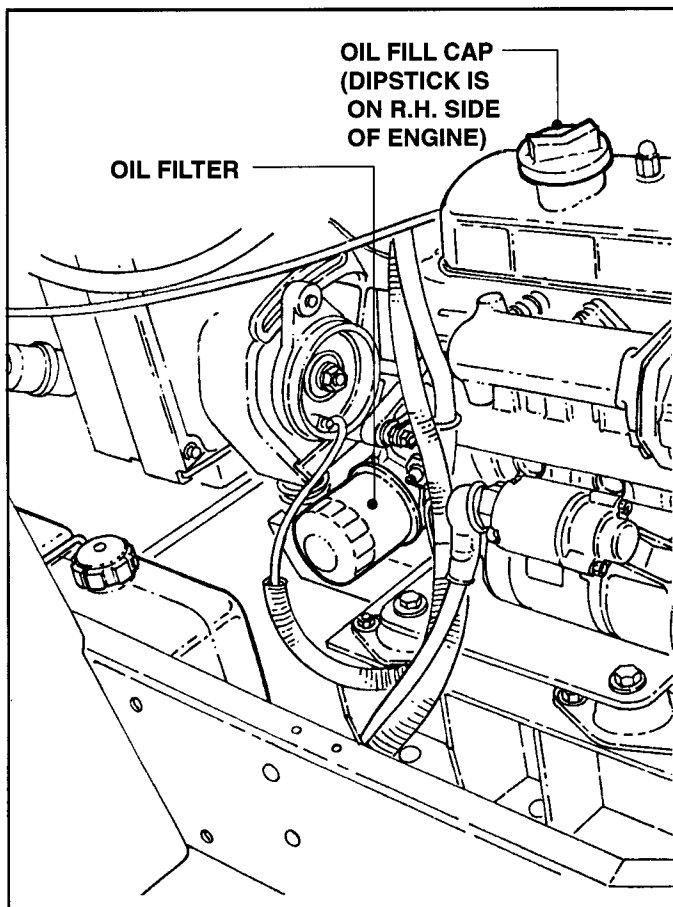

FIGURE 5.1
2. Change Oil Filter after first 50 hours of operation and at each oil change thereafter. See Figure 5.1.